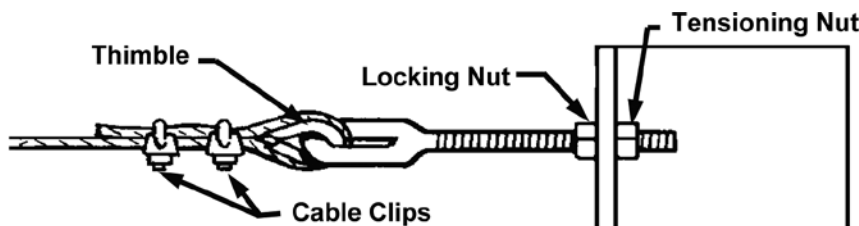

Figure 2
- 2.1 Install the eyebolts (one on each of the support brackets which are located at each end of the system), positioning the tension adjusting nut near the end of the threaded bolt (see Figure 2). The anchor bracket, supplied with the system, may be mounted from the same bolt (see Figure 1).
- 2.2 Anchor the catenary wire to the eyebolt at the fixed end using the thimble and cable clips. (See Figure 2.)